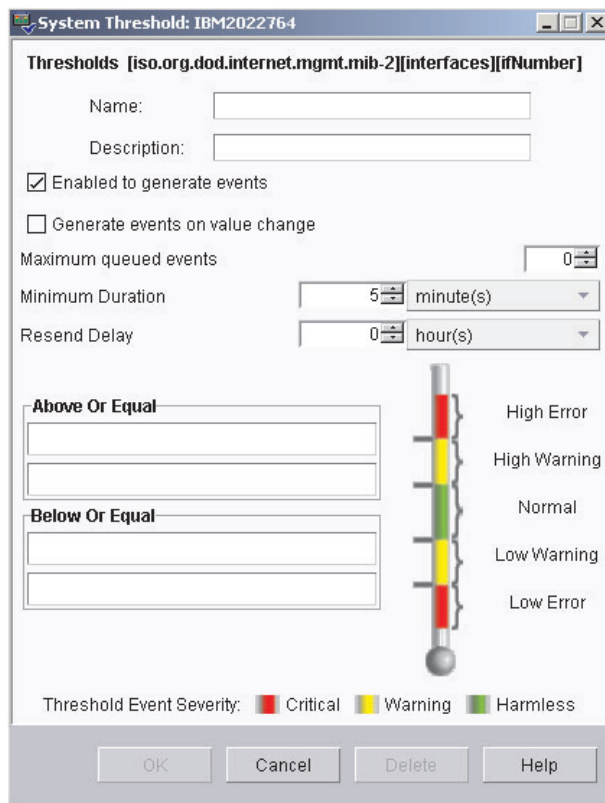
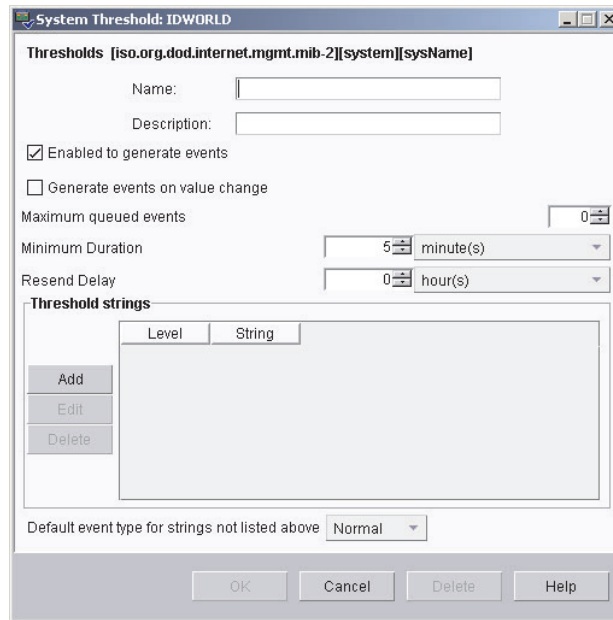

Figure 101. "System Threshold" window for setting numeric thresholds
Figure 102. “System Threshold” window for setting text-string thresholds
- In the Selected Resources pane, right-click the resource attribute that you want to monitor; then, click **Individual Threshold** if you dropped the Resource Monitors task onto an individual managed system or device. Or, click **Group Threshold** if you dropped the Resource Monitors task onto a group. The "System Threshold" window opens, and depending on whether the resource-monitor threshold is numeric (Figure 101) or a text string (Figure 102 on page 219), you see the applicable window.